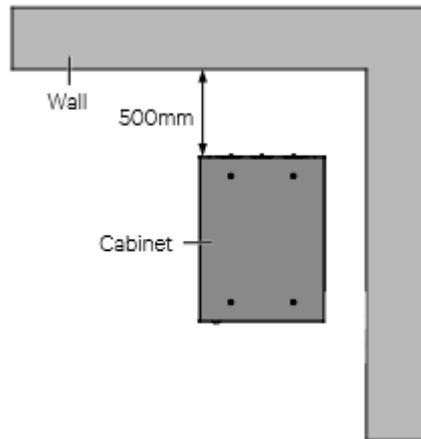

Figure 2-2 Installation Clearances (Top view of rack installation)
The internal fans provide forced air cooling for the UPS. Cooling air enters the UPS through the ventilation holes on the front panel and exhausts the hot air through the back-ventilation holes. Therefore, do not obstruct the ventilation holes. Maintain at least 200mm clearances between the front, rear of the UPS and the wall or adjacent equipment (see Figure 2-2), to avoid obstructing the UPS ventilation and heat dissipation. Otherwise, the UPS internal temperature will rise, which will shorten the UPS life.
2. As shown in Figure 2-2, the demonstration of the clearance between the rear panel of the cabinet and the wall is 500mm. The clearance should not be less than 200mm, it needs to be considered according to the actual situation for the sake of maintenance convenience.